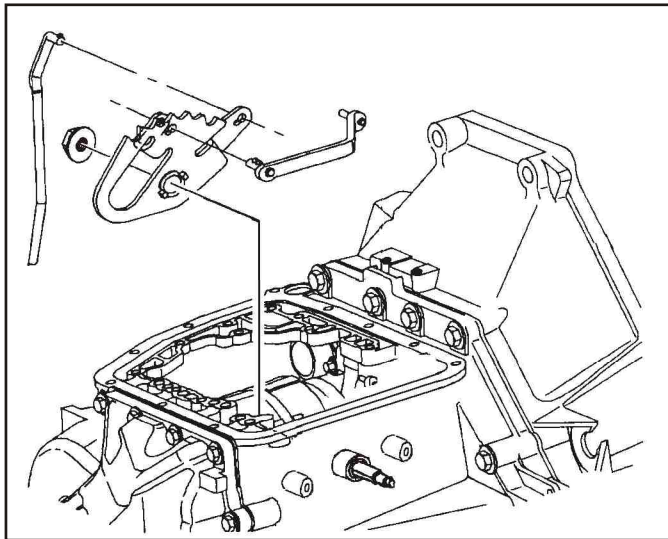

Figure 213
47. 1994 vehicles with VIN # RZ141472 and higher will not have a roll pin that attaches the manual shaft to the detent lever. A retaining nut is used in its place as shown in Figure 213. The installation process is the same as described above. When the nut is installed, torque the nut down to 12 N•m (106 in. lbs).